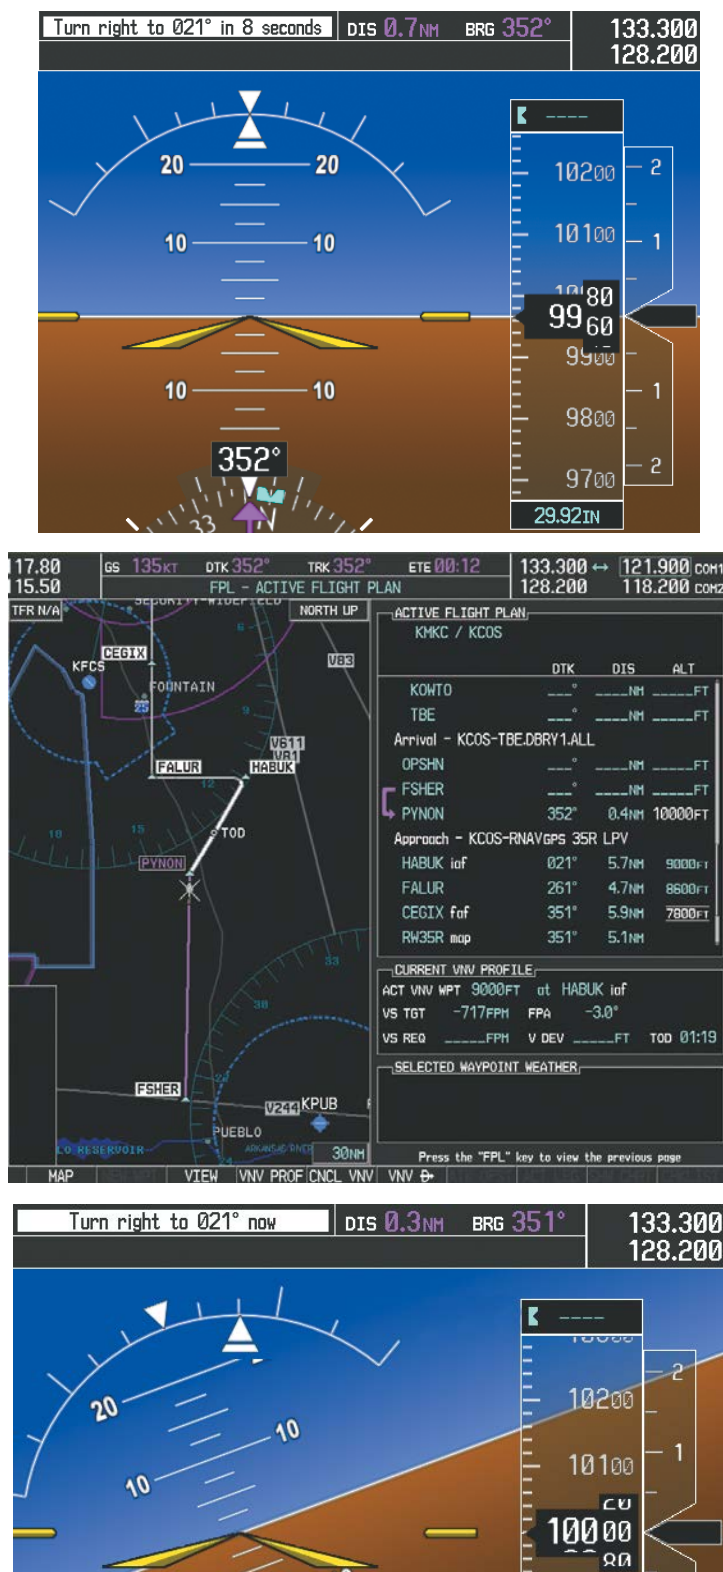

Figure 5-142 Approaching PYNON
- 20) The flight continues through the arrival procedure to PYNON (see Figure 5-142). At a point 31 nm from the destination airport, the phase of flight scaling for the CDI changes to Terminal Mode and is annunciated by displaying 'TERM' on the HSI.